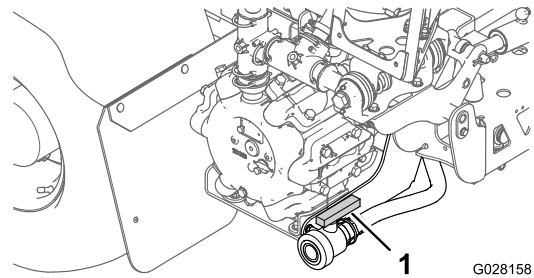

Figure 46
2. Locate the tank-drain valve on the rear of the machine (Figure 46).